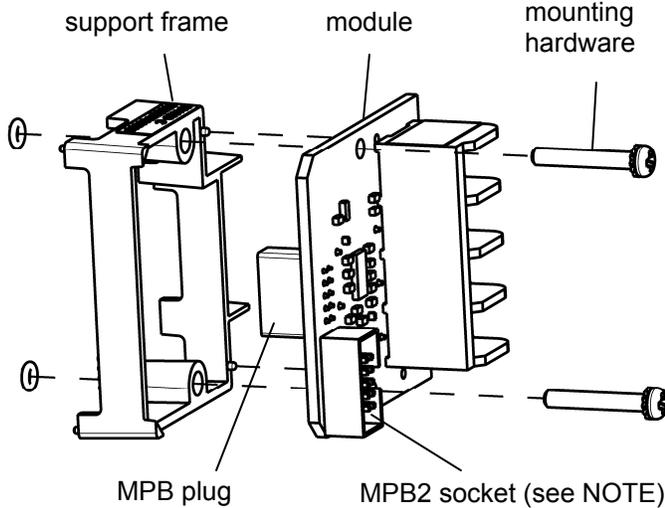

Figure 1. Current sensing module turned 90° to show the plug (and added socket for separate door controls).
4. Locate the Group G controller that is mounted on the inside of the door. Do not remove controller cover. Refer to Figures 1, 2, 3, 4, and 5.